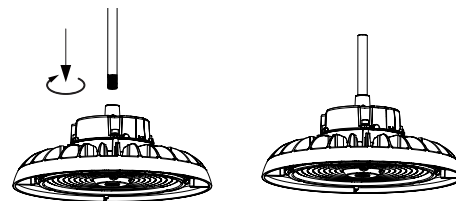

Figure 7
1. Twist the 1/2" stem it into the hole of fixture. (figure 7)